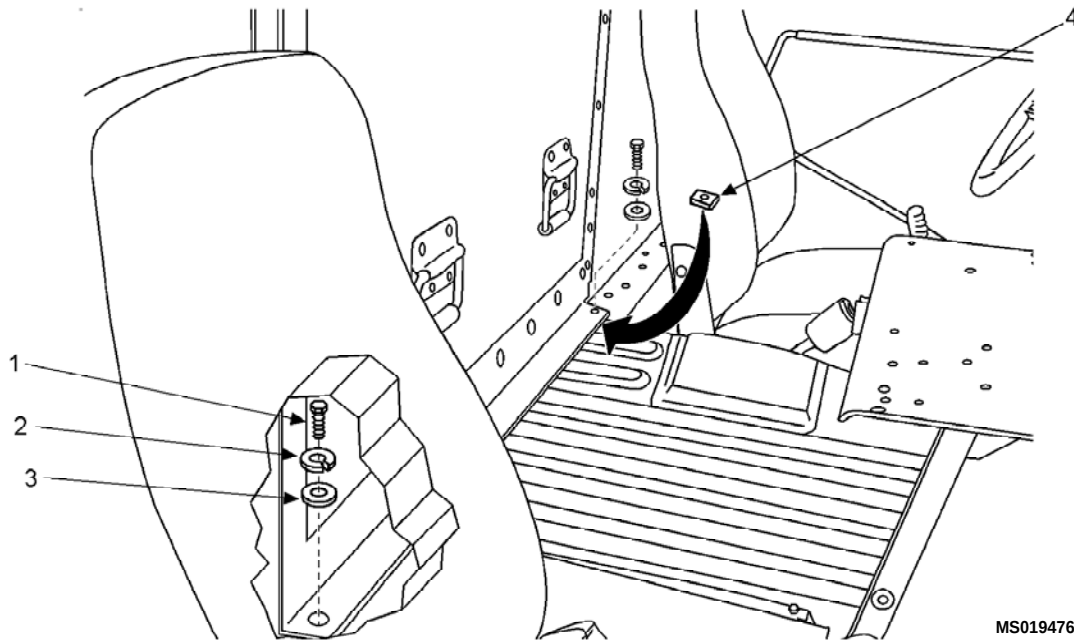

Figure 3. Front Attachment (Typical Two Places)
4. Bolt front of main box in place with two bolts (1), two lock washers (2), two flat washers (3), and two spacers (4). (Figure 3) Reuse hex nuts from tie-down rings stored with the Organizational Maintenance during VEHICLE PREPARATION.